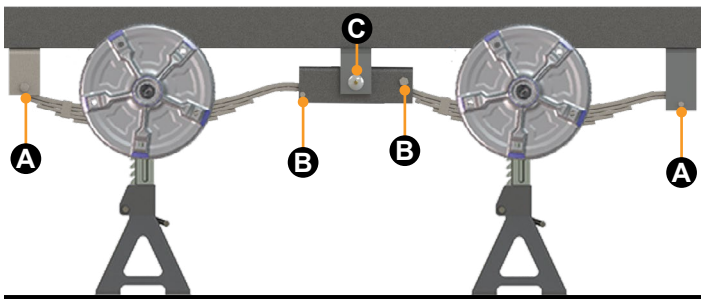

Fig.3
7. Using a floor jack, lift the axles slightly and place the additional properly-rated jack stands under the axles (Fig.3) so that the bolts can be driven out with a hammer.